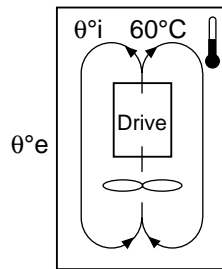

Figure 2-6 Ventilation for Dust and Damp Proof Enclosure
- Air flow inside enclosure = 200 CFM (100 dm³/s), fan mounted beneath the controller at a maximum distance of 2 in (50 mm); see Figure 2-6.